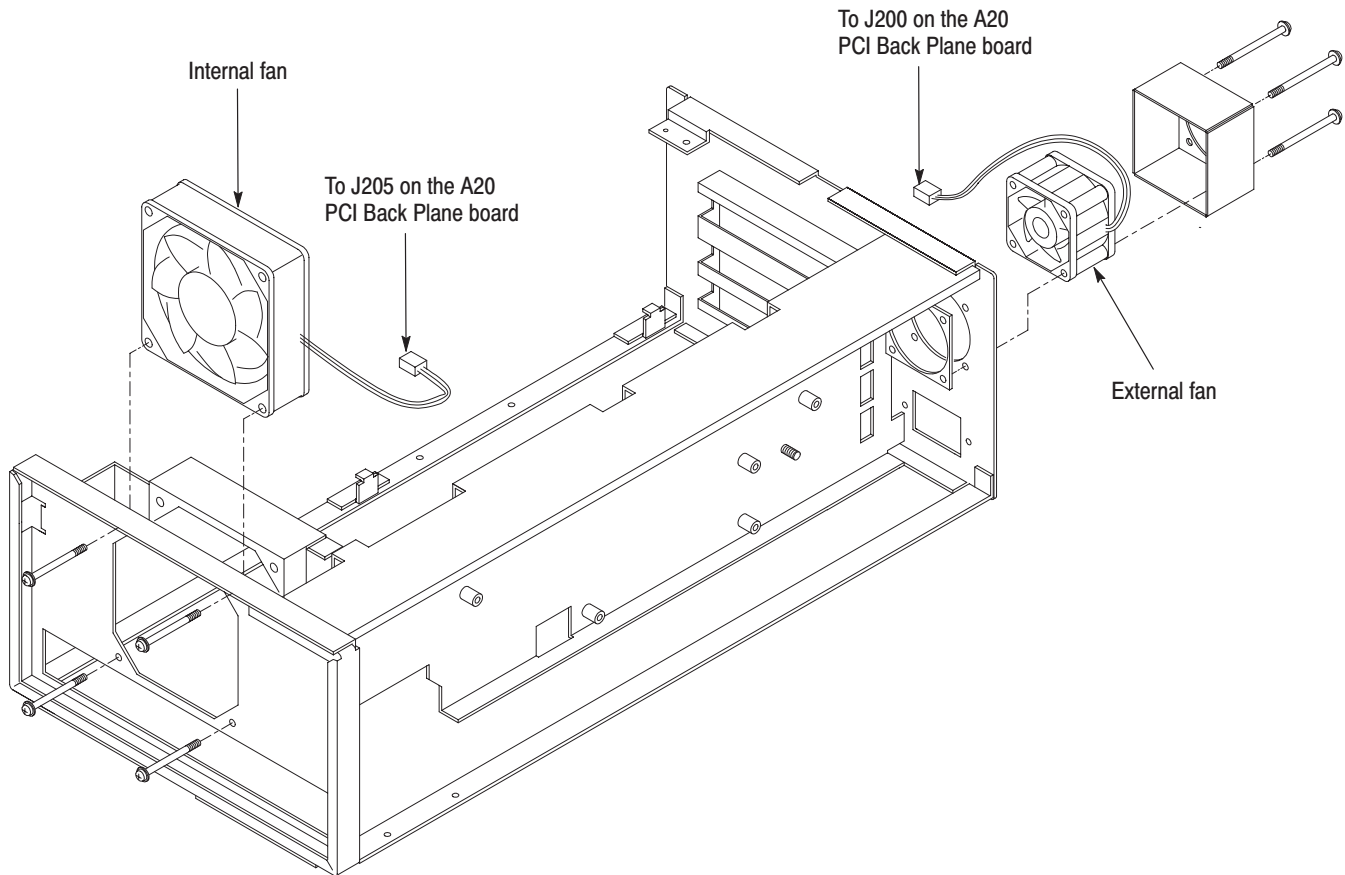

Figure 6-13: Internal and external fans removal
3. *Remove the internal fan:* See Figure 6-13.
5. *Remove the external fan:* See Figure 6-13.